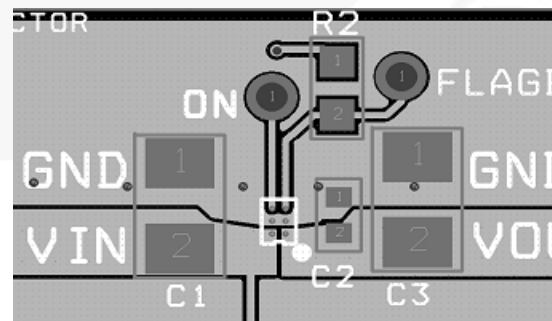

Figure 28. PPF2020X Proper Layout
- The V_{IN} , V_{OUT} and GND pins will dissipate most of the heat generated during a high load current condition. Using wide traces will help minimize parasitic electrical effects, along with minimizing the case to ambient thermal impedance. The layout suggested in Figure 28 provides each pin with adequate copper so that heat may be transferred out of the device as efficiently as possible. The low-power FLAGB and ON pin traces may be laid-out to maximize the area available to the ground pad.